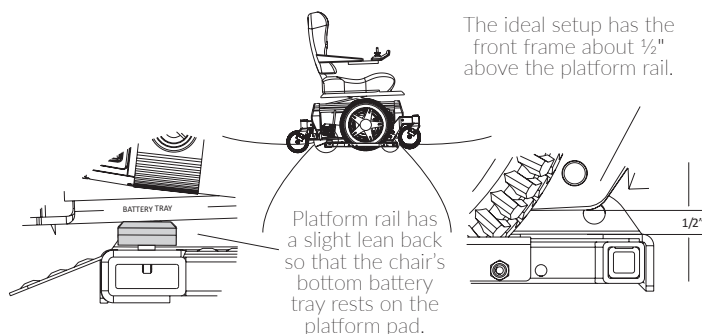

Figure 6-17
1. Position the chair on the platform. Stop when the drive wheels are in the platform gaps. Raise the platform off the ground and inspect the chair. See Figure 6-17.